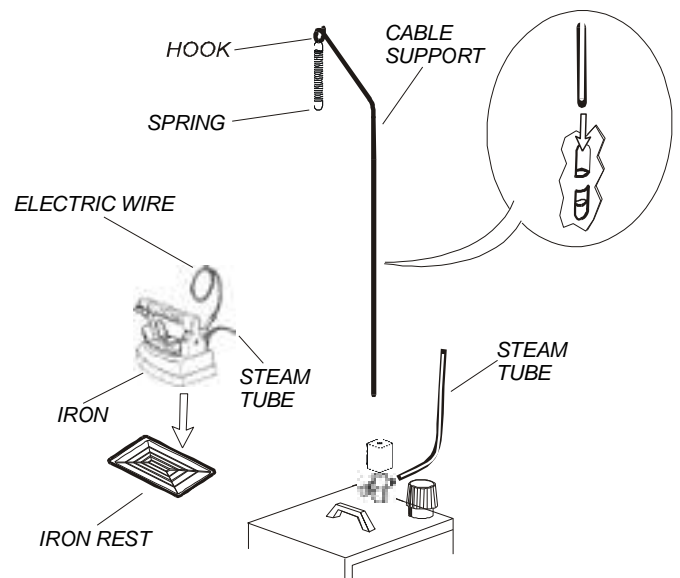

Fig. 1
2. Remove SATURNINO from the box and insert the cable support deep into the special hole (fig. 1) placed on the back side of the generator.
3. Fix the spring to the support hook, avoiding entwining (fig. 1).
4. Place the iron on the rubber iron rest supplied with the machine (fig. 1).
3. During the ironing, pay attention to put the iron on its rubber rest (fig. 1).